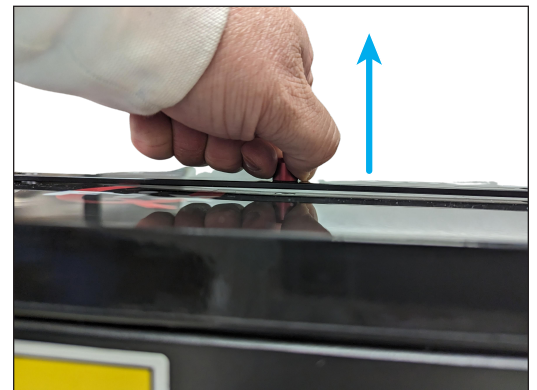

Fig. 11
3. Pull up gently on the red locating pin in the direction shown. (Fig. 11)